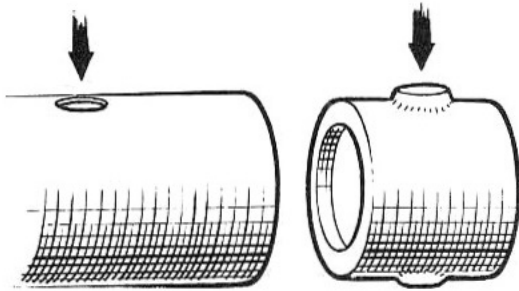
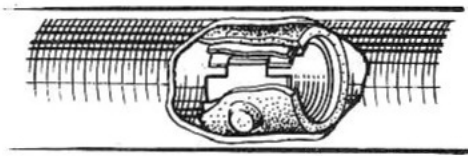

Fig. 17 Arrows indicate outer column bush locations
Fig. 18 Cutaway view of an outer column bush
2. Fit the bush assemblies to the outer column so that their locating lugs engage with the holes provided (Fig. 17) and the metal reinforced end of each bush is towards the lower end of the column (Fig. 18).